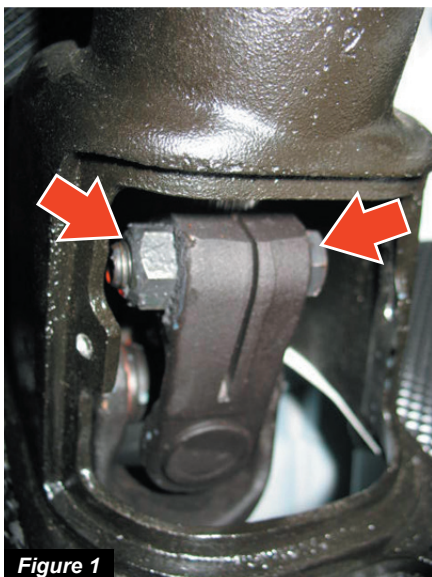

Figure 1
- Using a #2 Phillips screw driver, remove the cover over the lower steering column universal joint. This will expose the steering column to intermediate shaft pinch bolt (*Figure 1*).
- Using a 11/16" socket and 5/8" box wrench, remove the pinch bolt and backing nut (*Figure 1*).